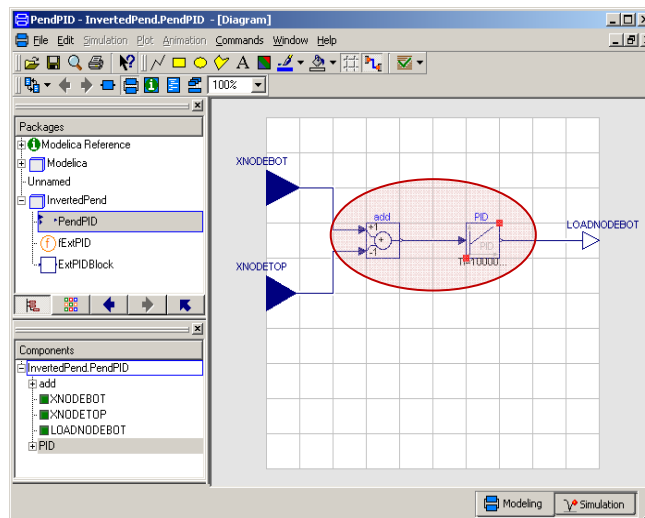
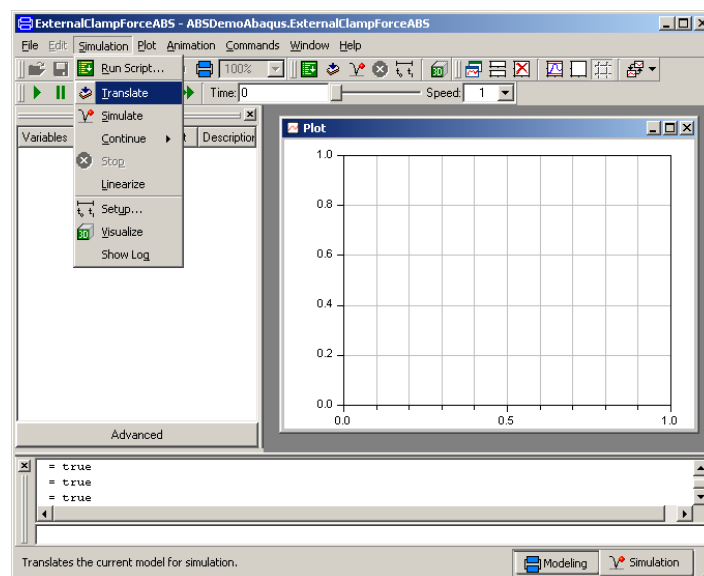

Figure 3-5: Dymola Modeling window
Figure 3-6: Dymola Translate
- 3) Dymola is launched (Figure 3-5) and the logical file written out by the plug-in will be displayed. The Dymola model will have the same name as that of the Abaqus/CAE model.
You are expected to build the logical model using the sensors and actuators as shown in the highlighted area in Figure 3-5. Once the model is complete, in Dymola switch to the Simulation tab (bottom right) and translate the model by selecting **Simulation** → **Translate** (Figure 3-6) to generate the dymosim.dll file.